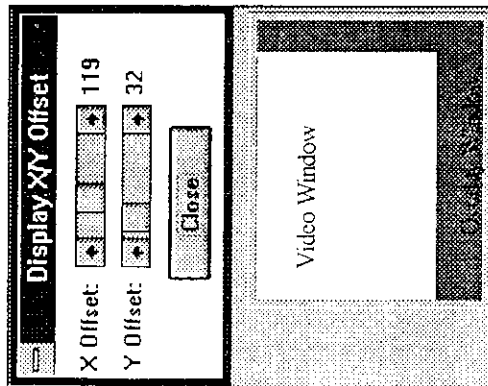

Figure 3-23.
5. CLICK on "Overlay Key Control" to set VGA Color Key to a color key value other than the default. CLICK on "Display X/Y Offset" to adjust the video window within the overlay window. When the video window is centered, it will completely cover the overlay window (see Figure 3-23).